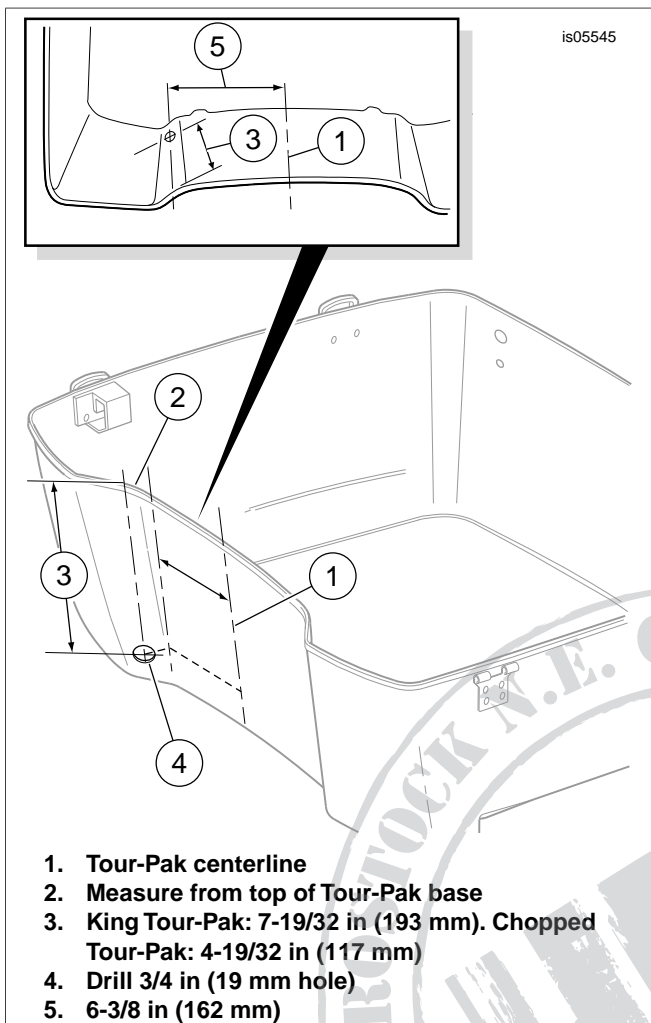

Figure 3. CB Antenna Cable Drilling Location (Type 2 Tour-Pak)
- a. See Figure 3. Measure and determine the center (1) of the inside front Tour-Pak wall.
- d. Facing the tape, measure 6-3/8 in (162 mm) from the center line to the right side front Tour-Pak wall. Do not follow the curve of the wall, but measure **straight across**. See Figure 3 inset.
- f. Measure again and mark the tape 6-3/8 in (162 mm) (5) **straight across** from the center line, near the top of the tape strip and again near the bottom of the strip. Draw a line from the top mark to the bottom mark.
- g. **For King Tour-Pak:** Measure down 7-19/32 in (193 mm) (3) from the top edge of the Tour-Pak.